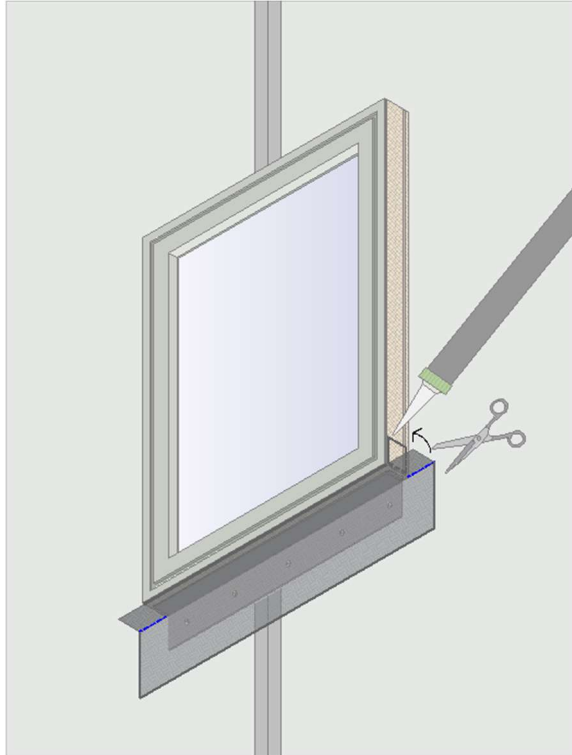

Figure 7
- Using illbruck cutting shears cut a neat straight line (shown in Figure 7 in blue) from the membrane ends towards the window frame to form a flap. Fold the flap upwards and mark the side and end point against the frame.
- Apply adhesive in a continuous ribbon (shown in Figure 7) 15 mm inside the lines. Press the flap of membrane on to the adhesive ribbons and consolidate as described in Stage 2.